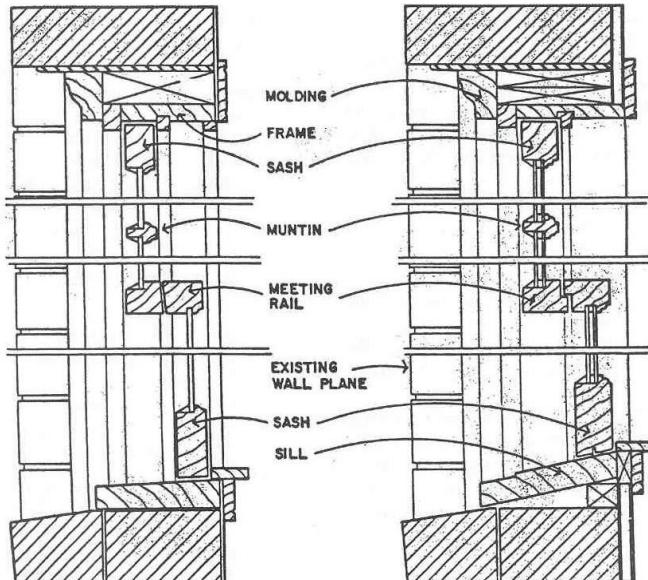

Figure 2
- 4. Wall section drawings** illustrating the horizontal and vertical sections of all existing** and proposed replacement windows. These drawings should include proposed head, jamb, sill, and muntin section details, and relationship of the frame (if being replaced) to the wall (see figures 2 and 3).